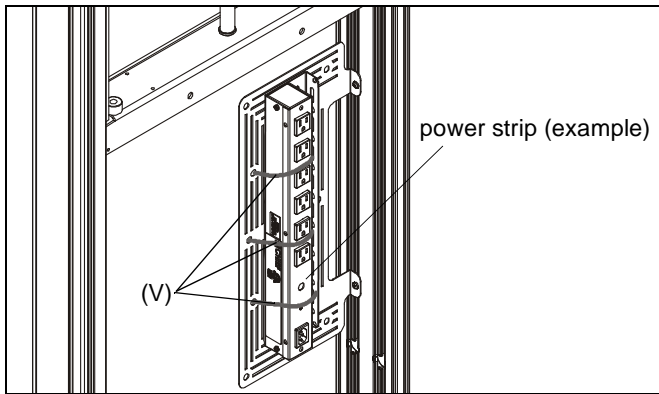

Figure 4
5. Install components to accessory bracket as desired using cable ties (V) or screws. (See Figure 4)